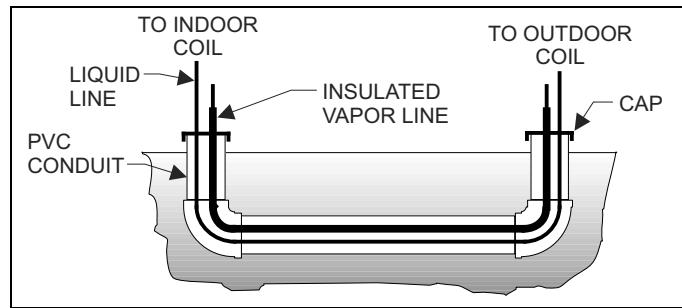

FIGURE 3: Underground Installation
6. Use PVC piping as a conduit for all underground installations as shown in Figure 3 "Underground Installation". Buried lines should be kept as short as possible to minimize the build up of liquid refrigerant in the vapor line during long periods of shutdown.